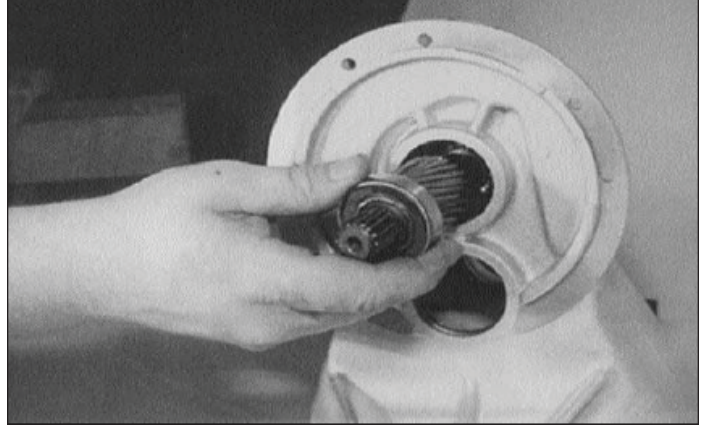

Figure 6-47. Intermediate Shaft and Bearing
13. Pull input shaft assembly (12) from housing (Figure 6-47). The input shaft assembly should slide out easily. If resistance is encountered, a slide hammer may be required.
4. Install input shaft (12). Bearings (13, 15) and shaft should slide easily into housing (Figure 6-47). If resistance is encountered, use a plastic or leather mallet to tap shaft into position.